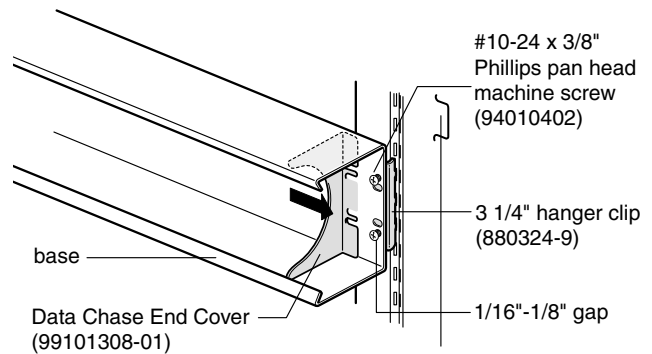

Figure 1
1. At designated mounting height, install hanger clips on the left and right hand sides of the frame. Make sure clips are firmly seated in the hanger frame. (Figure 1)
2. Align the top and bottom slots on each side of the base with the weldnuts in the hanger clips and install one of the #10-24x3/8" Phillips pan head machine screws in each weldnut. Leave a 1/16" - 1/8" gap between the head of the screw and the back of the base. (Figure 1)
3. Insert the Data Chase End Cover into the base inboard from the hanger clip screws with the notches pointing out of the base on each side. Slide end cover under hanger clip screws and tighten screws. (Figure 1)